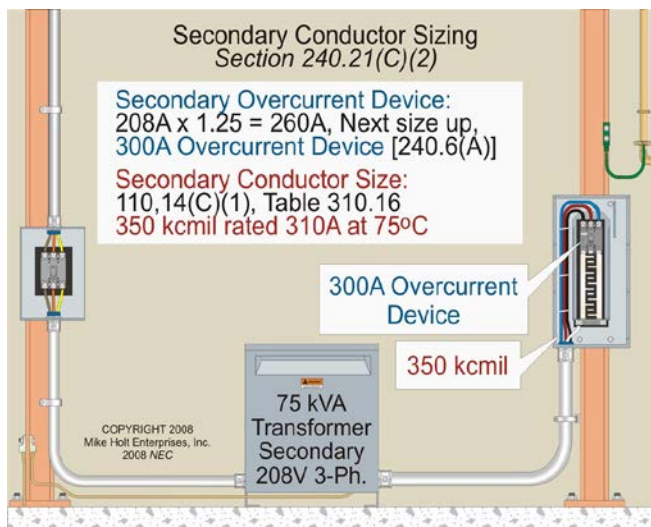

Figure 12-52
Step 2: Size the secondary device rating at 125% of the secondary current rating. **Figure 12-52**